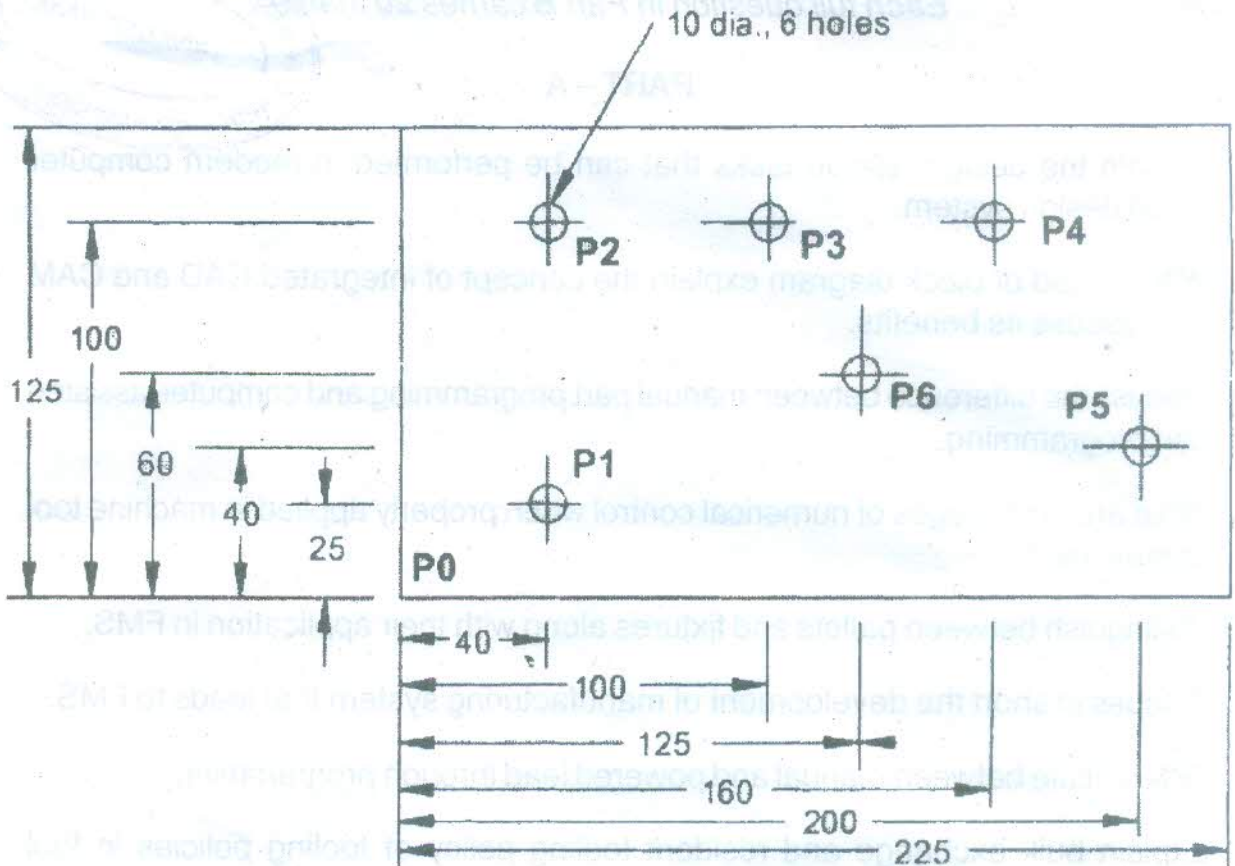

Fig. 1
- b) Write the manual part program in word address format using absolute positioning to drill the holes in the part as shown in Fig. 1. The part is 12.0 mm thick. Cutting speed = 100 m/min and feed = 0.06 mm/rev. Use the lower left corner of the part as the origin in the x-y axis system. 12